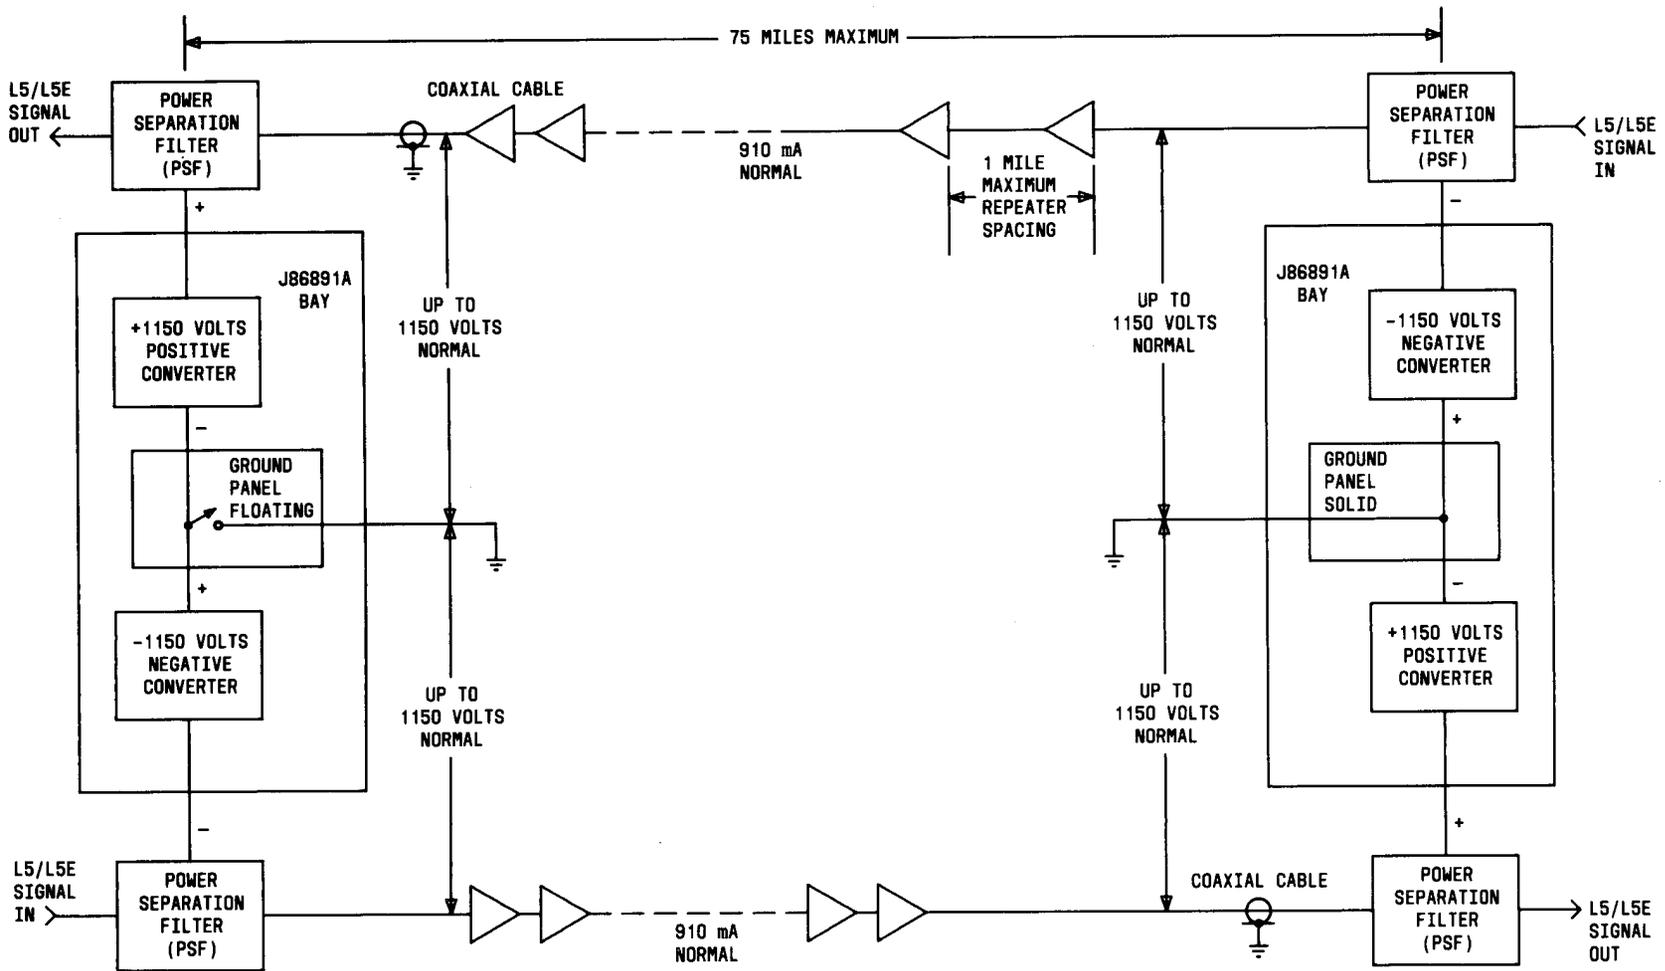

Fig. 4—L5/L5E Double—Ended Power Feed Using 680A Power Plant
1.08 If the length of the coaxial line is in the range of 37.5 to 75 miles, the line is powered by a double-ended power feed arrangement (see Fig. 4). A double-ended power feed is powered by two regular CONVERTER bays. One regular CONVERTER bay is used at both ends of the coaxial cable pair. The POSITIVE CONVERTER at one end together with the NEGATIVE CONVERTER at the opposite end will power one of the coaxial tubes. The remaining NEGATIVE and POSITIVE CONVERTER will supply power to the other cable (tube).